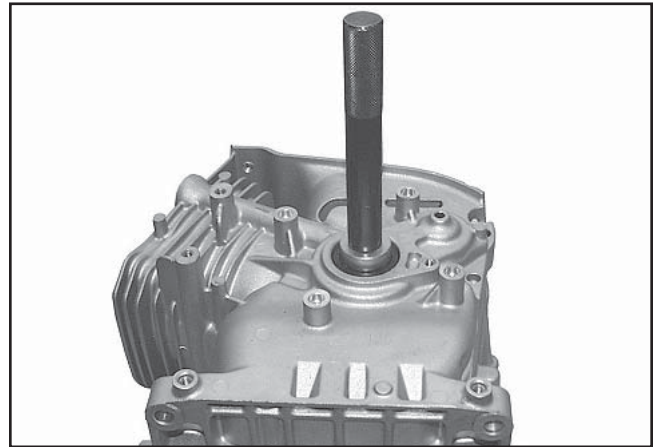

Figure 11-5. Install Crankcase Oil Seal.
- Using an appropriate seal driver, install the oil seal into the crankcase to the depth specified below. See Figure 11-5.